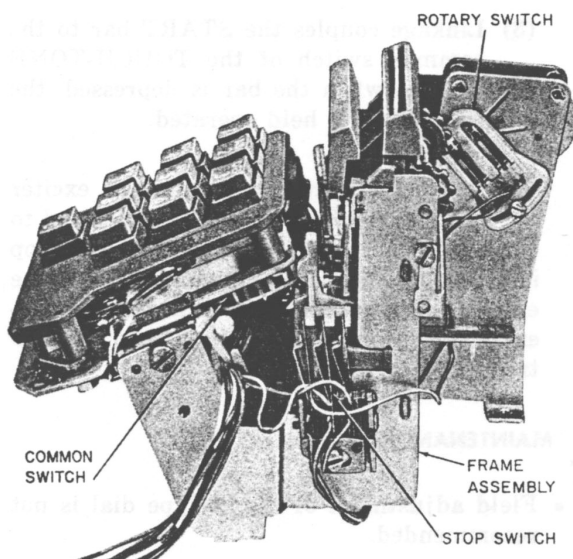

Fig. 3 — 26-Type Dial, Right Side View
- Frame assembly — for positioning in apparatus assemblies (Fig. 3)
- Stop switch — allows manual dialing while card is at any stop position (Fig. 3)
(4) Stop switch contacts (Fig. 3) must be made while card is advancing and must be open when card is in stop position or at end of run.
(5) Card drive spring should have consistent tension as the card is lifted. If card rises too slowly check drive spring tension as follows: